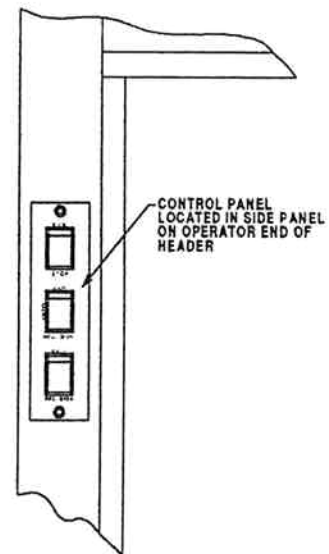

Figure 12
- 1 Remove Control Panel Switch Assembly before installing panel (Ref. Fig. 12).